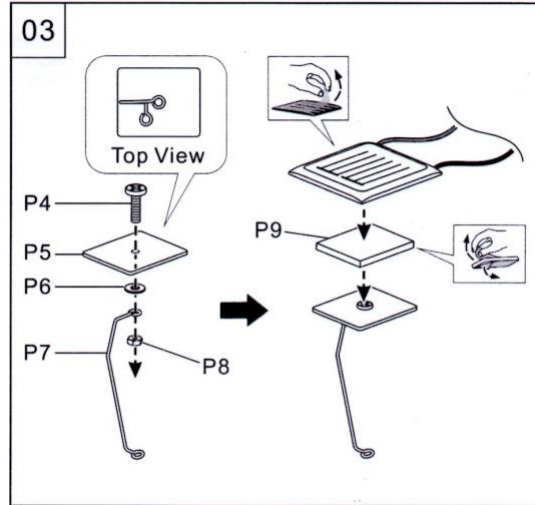

Fig. 6
3. Arrange the screw, panel holder, washer, sting, and bolt as shown in **Fig. 6** Use your screwdriver and long nose pliers to carefully tighten the screw and nut. Then attach the sponge onto the top of the panel holder and then stick the solar panel on top of that. Remember to remove the plastic that adheres to the sponge.